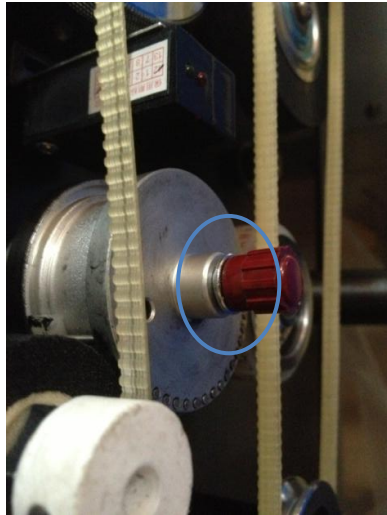
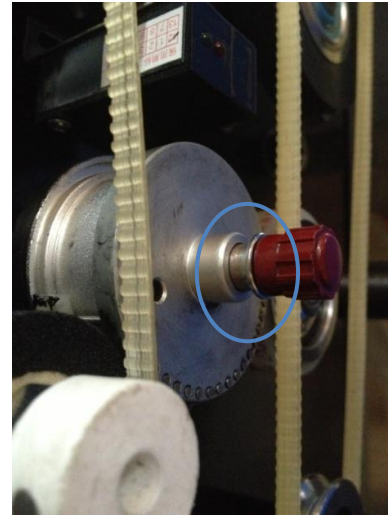

Figure 14. Locked Handle Position
Figure 15. Unlocked Handle Position
1. **Removing Print Wheel.** To remove the printing wheel from the base, push the red handle in and turn clockwise until you feel the handle unlock. (See Figure 14 and Figure 15 for locked and unlocked positions). You may need to turn the wheel a few times until the red handle unlocks and pops out of its locked position.